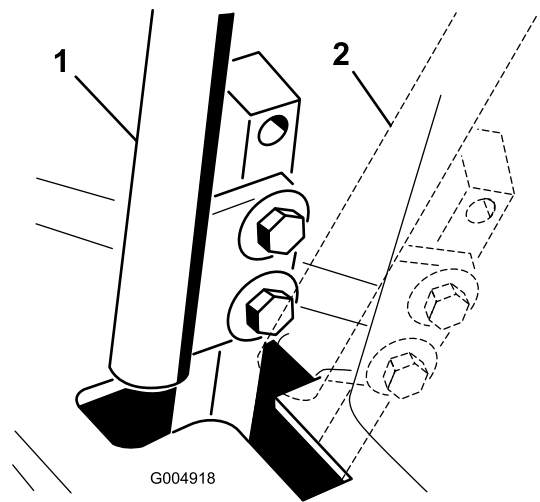

Figure 54
4. Move the control lever to the NEUTRAL position but **not locked** (Figure 54).
6. Check where the control lever is relative to notch in the console (Figure 54).